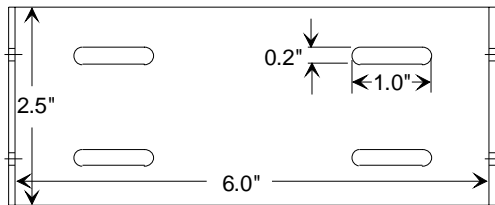

Figure 1 - Mounting plate and slot dimensions
- Using the installation bracket as a template, mark the four locations for drilling (see Figure 1). Again, ensure that drilling at the selected points is safe and will not cause damage.